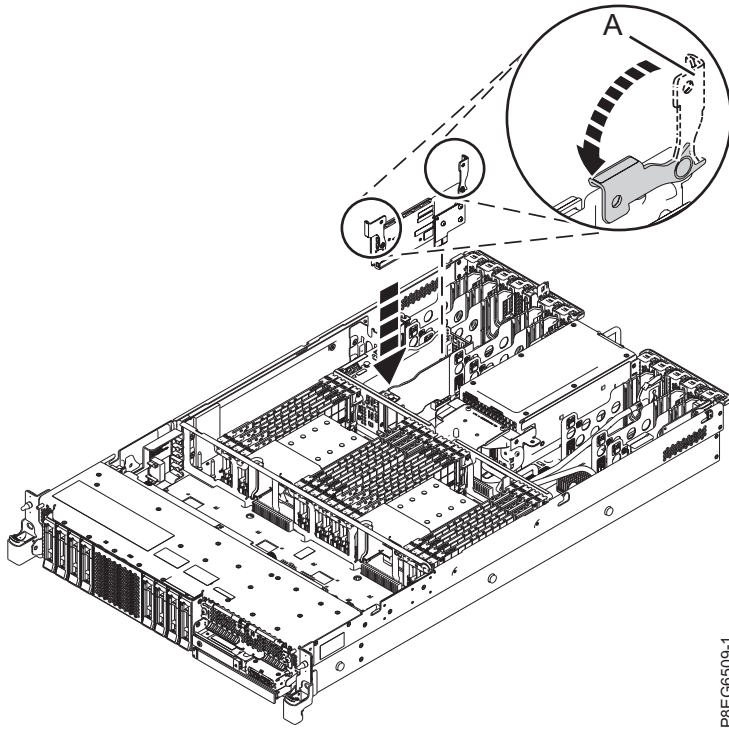

Figure 10. Replacing the backup power module card
10. The backup power module card is shipped together with the SAS RAID internal adapter as a single FRU and therefore must also be replaced when the SAS RAID internal adapter is replaced. Install the replacement backup power module card into the same slot the card was removed from. Holding the backup power module by its blue handles, install the card into its slot. See Figure 10 on page 12.
11. Push the blue handles (A) in the direction that is shown. See Figure 10 on page 12.